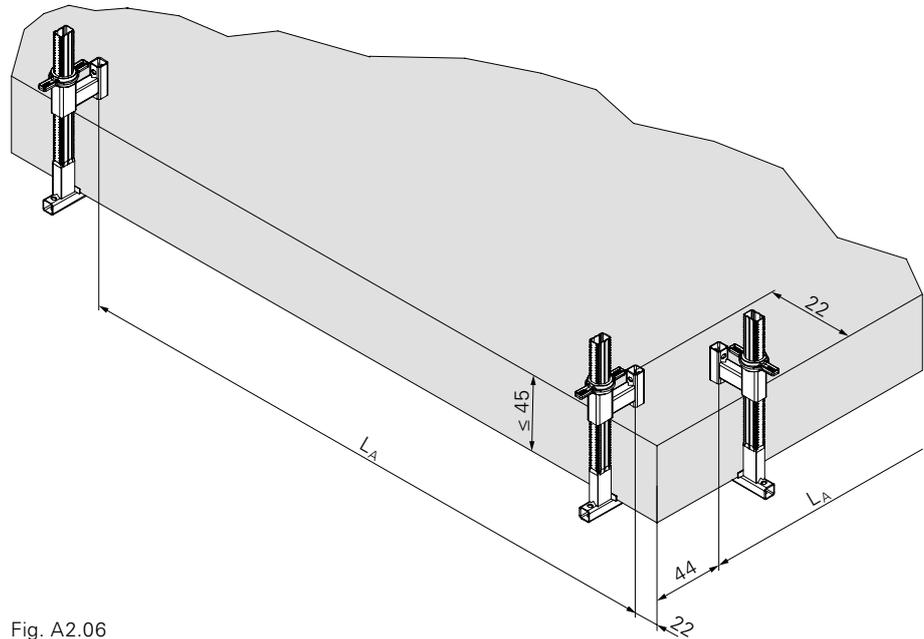

Fig. A2.06
- Centre distance L_A depends on the length L of the Side Mesh Barrier, see section Selection. (Fig. A2.06)